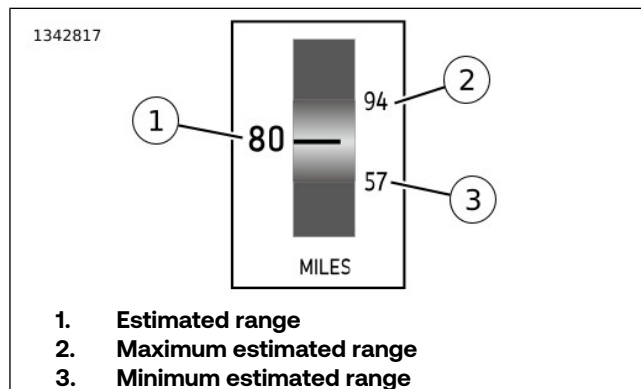

Figure 40. Range Widget
See Figure 40. The Range widget displays estimated remaining range (1), maximum estimated range (2) and minimum estimated range (3) based on current riding behavior.